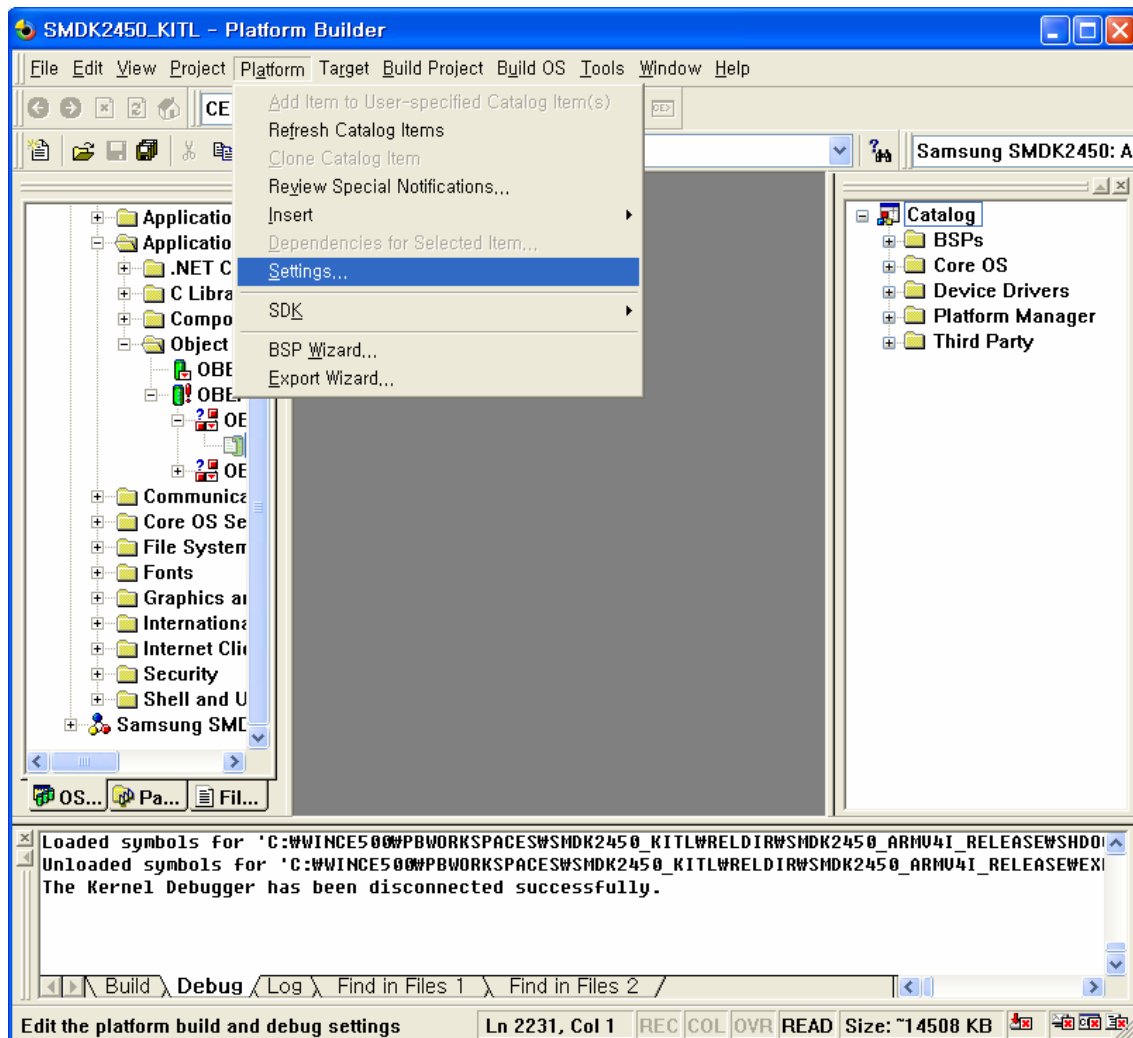

Figure 5-34 Platform Settings 1
1. To enable KITL, on the **Platform** menu in the platform builder window, click **Settings...** as shown in figure 5-34.